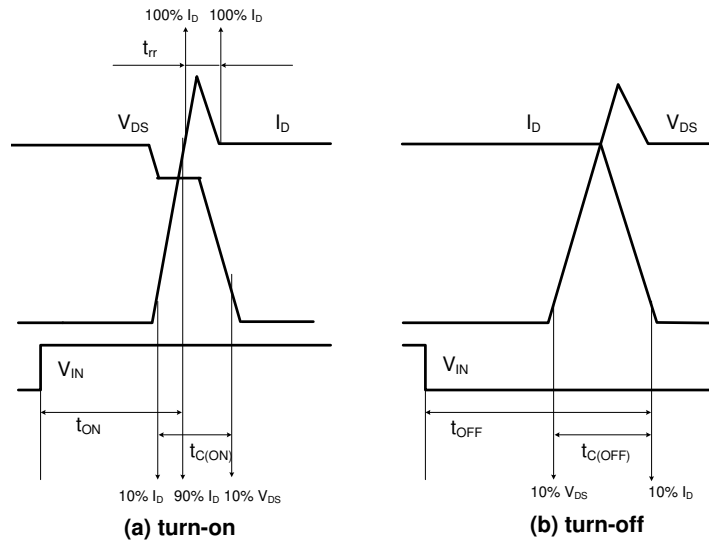

Figure 4. Switching Time Definition
- t_{ON} and t_{OFF} include the propagation delay time of the internal drive IC. $t_{C(ON)}$ and $t_{C(OFF)}$ are the switching time of MOSFET itself under the given gate driving condition internally. For the detailed information, please see Figure 4.